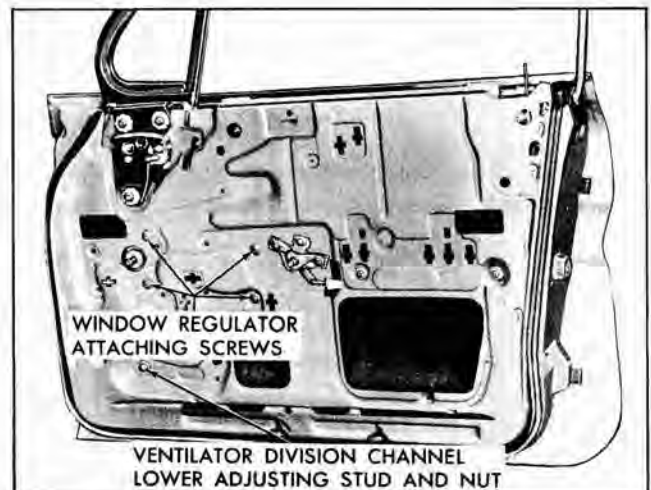

Fig. 3-28 Front Door Inner Panel - Hard Tops
2. Remove ventilator division channel lower adjusting stud and nut (Fig. 3-28).
3. On styles equipped with manual window regulators, lower window. Remove window lower sash channel cam attaching screws and disengage sash channel cam from window lower sash channel; then raise window and prop in full up position. Disengage sash channel cam from window regulator arm rollers (Fig. 3-28).